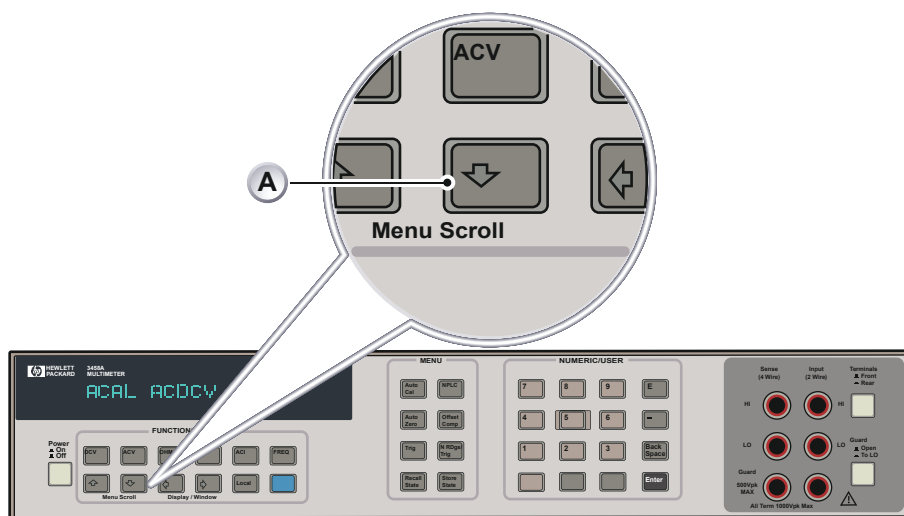

Figure E.21: HP3458A Multimeter Zero calibration (Part 2)
- 3 Select automatic calibration type with “Menu Scroll Down” button (see Figure E.21).